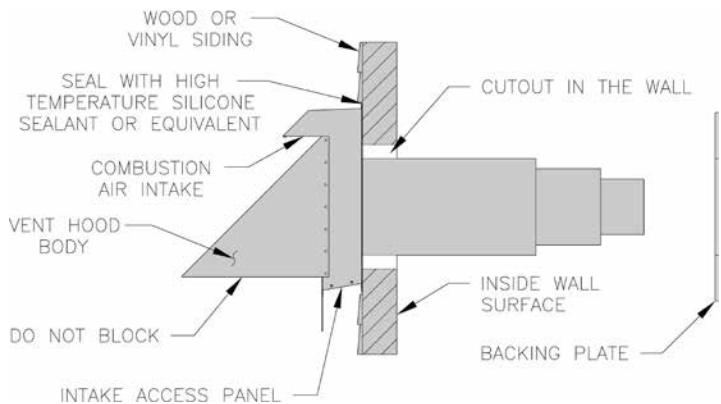

Figure 18: Vent Hood Body Installation
6. Wood or vinyl siding should be cut, so that vent hood base plate mounts directly on the wallboard to provide stable support. If siding thickness exceeds ½", use a spacer bar or board behind the vent hood mounting (base) plate. See Figure 18.